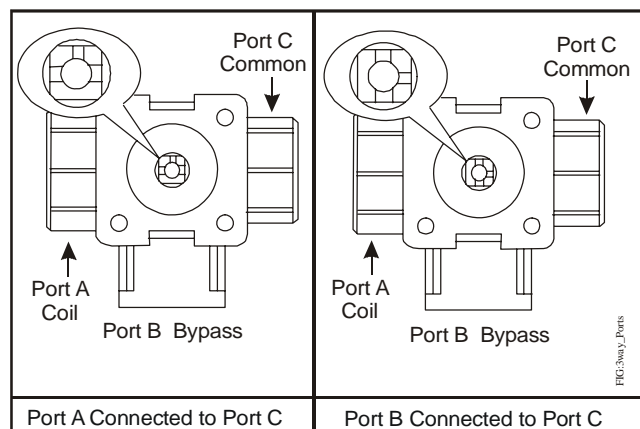

Figure 3: VG1000 Series Three-Way Ball Valve
Three-way valves feature two index markings on the top of the valve stem, with one of the index markings parallel to the common port. See Figure 3.
2. Rotate the valve stem such that the valve is in the correct position when the actuator has spring returned. See Figure 3.